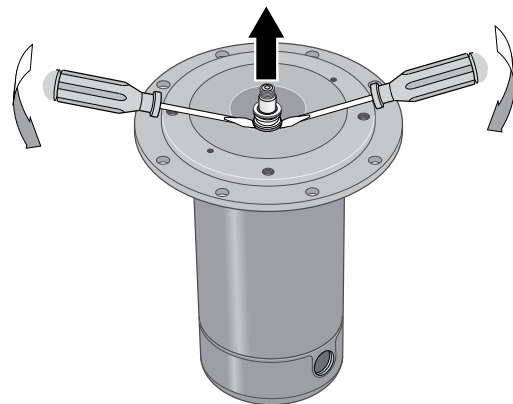

Figure 17 – Remove Seal plate
3. Remove rotating half of seal by placing two screwdrivers under seal ring and **carefully** prying up (Figure 17).